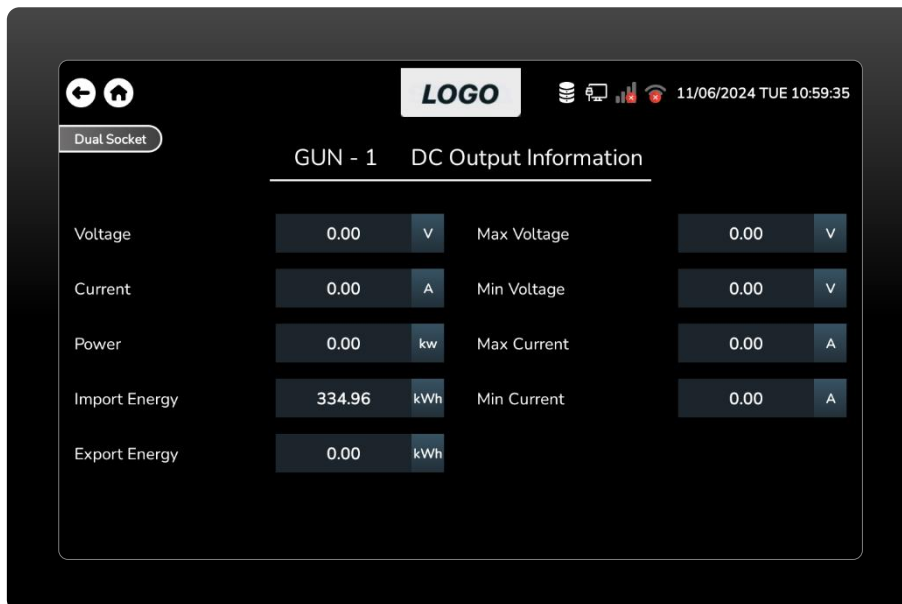

Figure 96 DC Output Information.
- This is the DC meter information screen, where the user can view information such as voltage, maximum voltage, minimum voltage, currents, maximum current, minimum current, power, import energy, and export energy. (Figure 96)